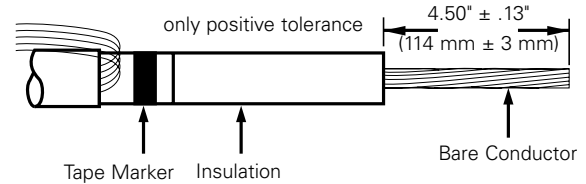

Figure 17. Line illustration of bare conductor length.
- Remove insulation exposing bare conductor to length of 4.50" (114 mm). (Refer to Figure 17.)